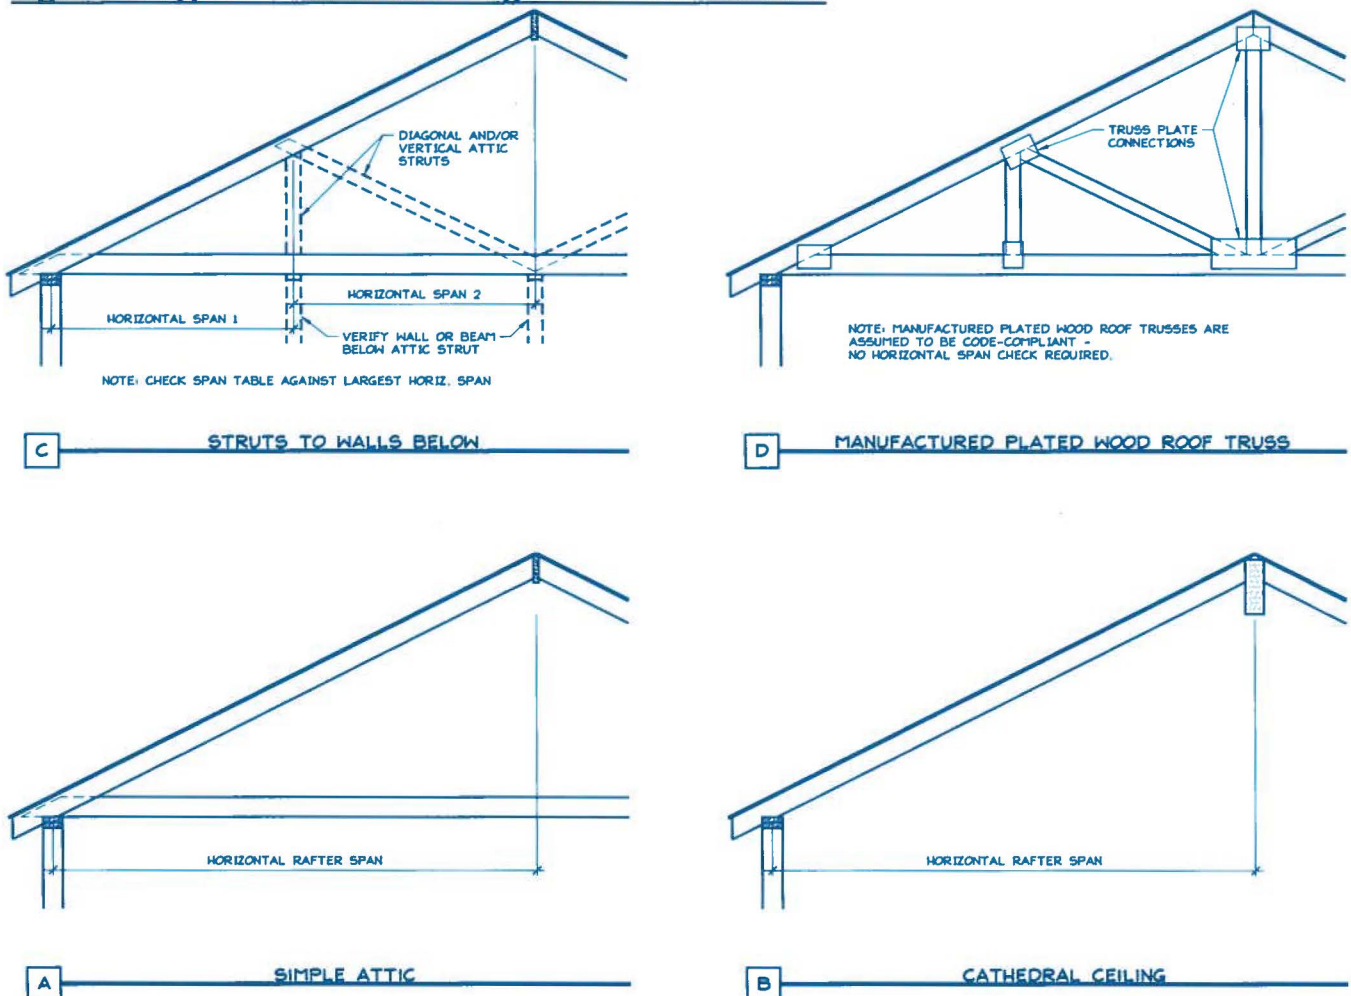

Figure 4. Definition of Rafter Horizontal Span.
- 5) Measured rafter horizontal span (see Figure 4): _____' _____" ft-in
1. See Figure 4 for definition of roof rafter maximum horizontal span.